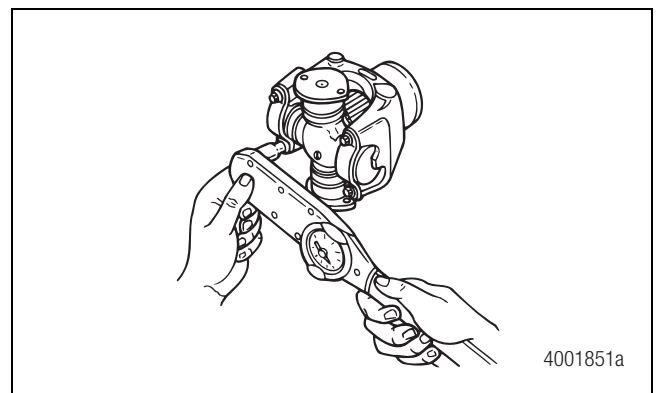

Figure 7.5
4. Use a torque wrench to alternately tighten the capscrews to Meritor’s driveline torque specification. Refer to Table D. Figure 7.5.